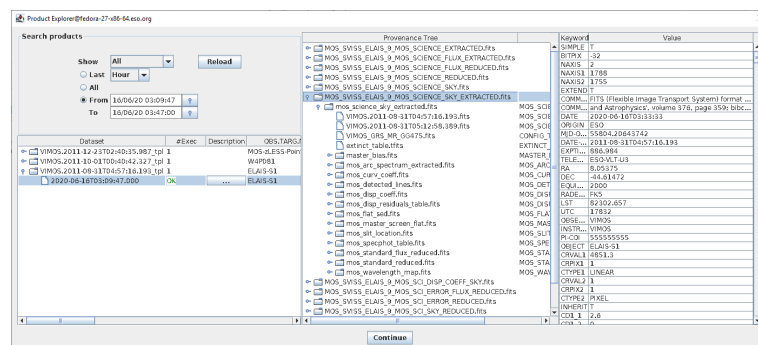

Figure 3.5: The Product Explorer shows all datasets reduced in previous executions together with the full reduction chain for all the pipeline products.
9. Once the reduction of all datasets has finished, a pop-up window called *Product Explorer* will appear, showing the datasets which have been reduced together with the list of final products. This actor allows the user to inspect the final data products, as well as to search and inspect the input data used to create any of the products of the workflow. Figure 3.5 shows the *Product Explorer* window. A full description of the *Product Explorer* will be presented in Section 6.3.3.